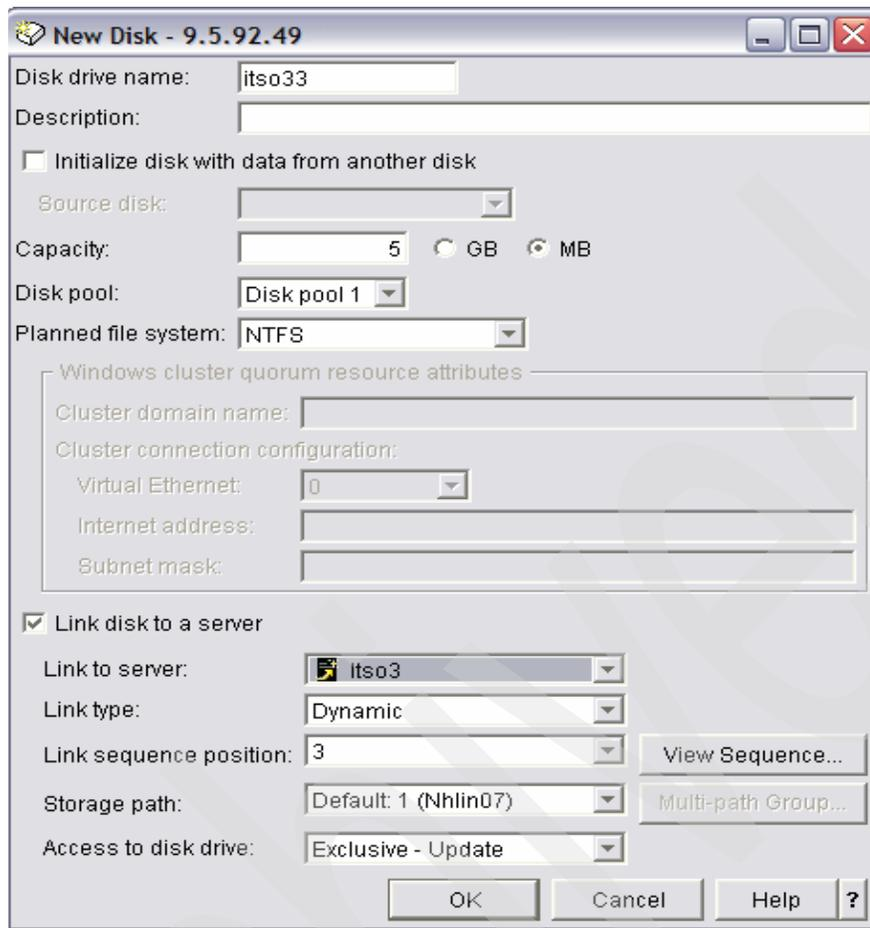

Figure 4-69 New Disk description
- c. In Figure 4-69 on page 100, specify a drive name (consider using a naming convention to make referencing specific disks easier. We named it after the NWSD and added a 3 to denote it is the first disk after ITSO31 and ITSO32, which are the drives created by the install.